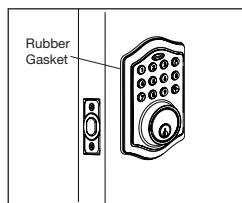

Figure 1a
- Check that the Rubber Gasket is properly seated on the Exterior Assembly (Figure 1a).